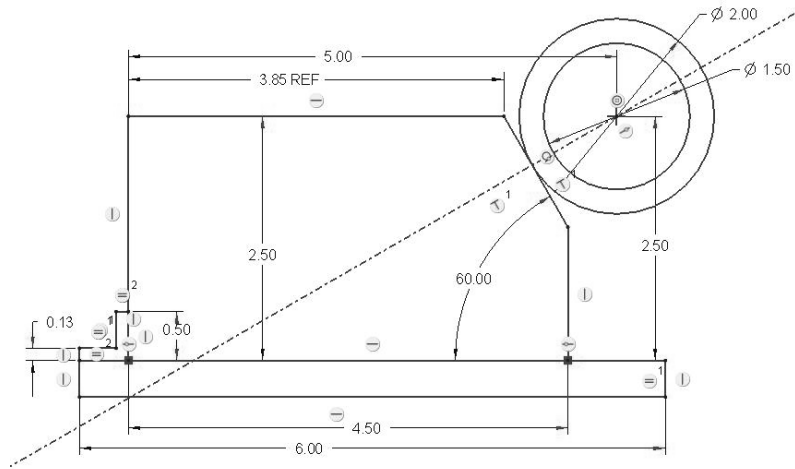

Figure3-65 Line of Action for Pipe Force
Step 30:  Select the **centerline** tool. Using the LMB *pick* the center of the pipe, then the point where the line touches the jig's slanted surface. The normal force produced by the pipe pushing on the slanted surface will lie along this line. If this line crosses the left edge of the jig above the fixed tab, then the jig will not stay in place by itself. In this case, this line crosses below the fixed tab, thus this jig will stay in place when released. See Figure 3-65.